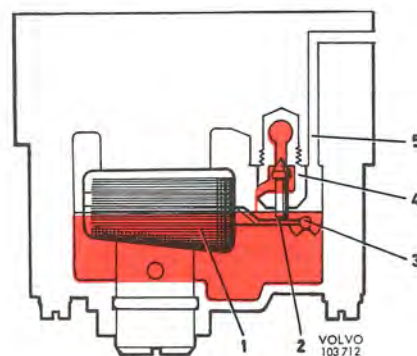

Fig. 2-58. Float system
Fuel flows into the floatchamber via the float valve (4, Fig. 2-58). The float (1), which is made up of twin expanded rubber floats, is carried on a bridge on the lower side of the carburetor housing. As the fuel